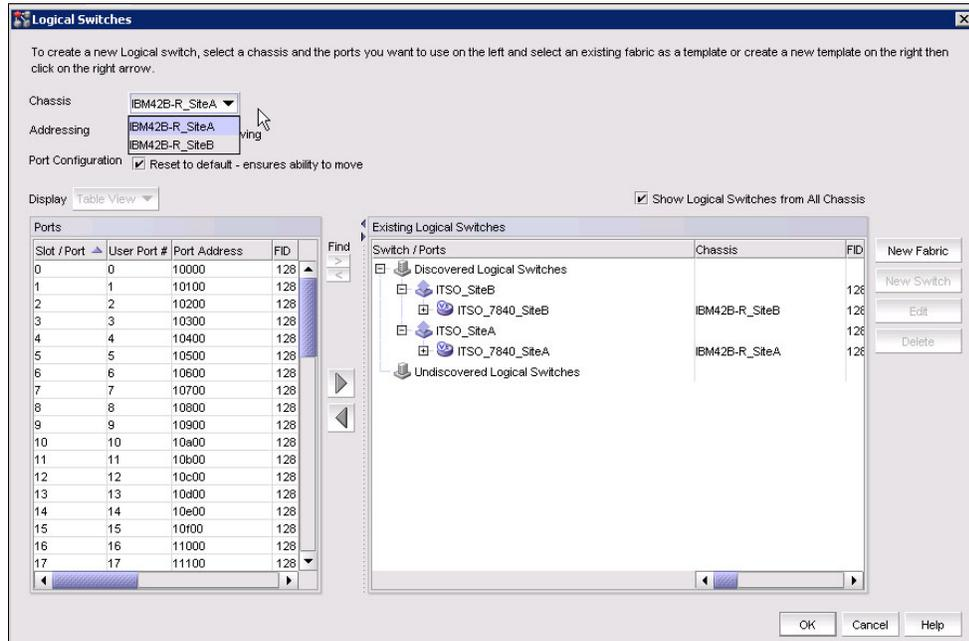

Figure 6-4 Select chassis for logical switch configuration
3. The Logical Switches window is displayed (Figure 6-4). Select the physical chassis **IBM42B-R_SiteA** in the **Chassis** list box.